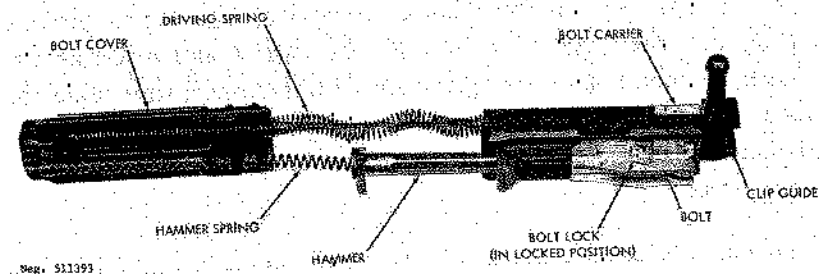

Figure 94. M58 bolt and firing mechanism.
b. The propellant gases drive the piston rearward against the bolt carrier, forcing the carrier to the rear and compressing the driving and hammer spring (fig 94). The hammer, because its head rests against the rear of the bolt carrier, moves to the rear, away from the firing pin. The piston is returned forward by its return spring. The bolt carrier continues rearward and, after five-eighths of an inch of free travel, a cam on the inside top of the carrier contacts the bolt lock and lifts it up, out of engagement with the locking recesses in the receiver. After the lock is fully disengaged, the bolt moves rearward with the bolt carrier, and the extractor withdraws the empty cartridge case from the chamber. The case is held to the bolt until the case strikes the fixed ejector in the receiver, at which time the case pivots around the extractor and is